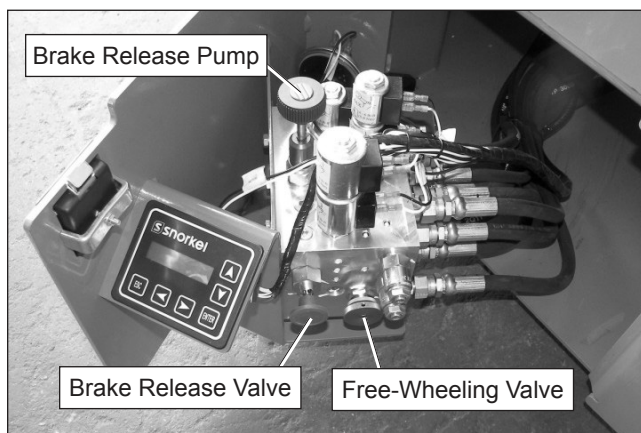

Figure 5 – Hydraulic Tray
1. Unlatch and swing out the control valve tray on the right side of the machine. The brake release valve and free-wheeling valve are located on the side of the hydraulic manifold. The brake release pump is on the top of the valve (refer to Figure 5).